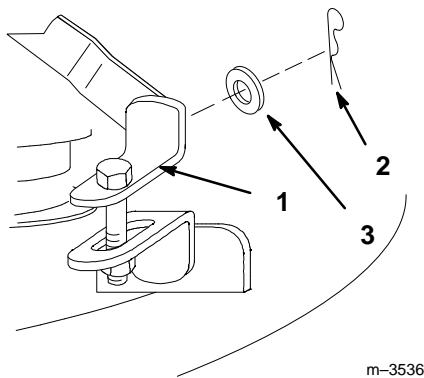

Figure 15
4. Remove 1-7/16" hairpin cotter and 3/8" washer from front adjustable link and remove from front lift arm (Fig. 15).